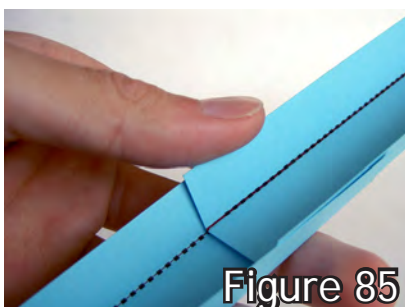

Figure 85
1. Overlap the two tracks by about an inch (2.5 cm). Lay the uphill track on top of the downhill segment to prevent a bump which could cause the marble to leave the track. (fig. 85)